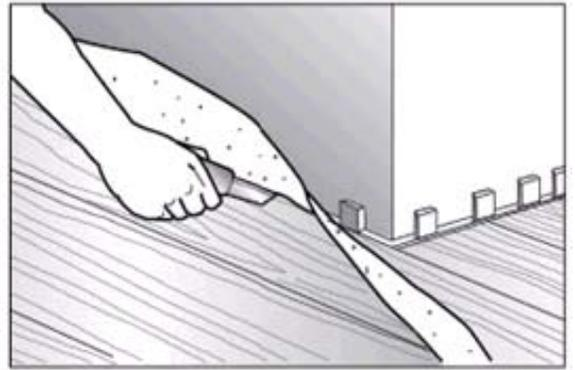

Fig. 17
22. When appropriate, cut the underlayment even with the top of the floor (Fig. 17).